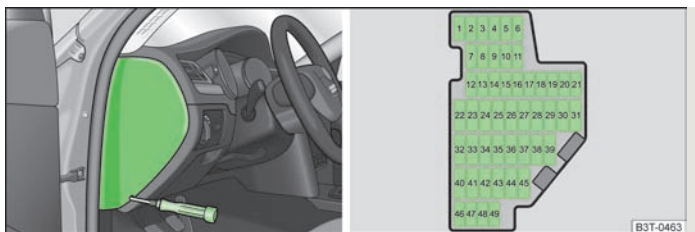

Fig. 186 Fuse box cover/Schematic diagram of the fuse box
- > Remove the cover for the fuse box using a screwdriver » Fig. 186.